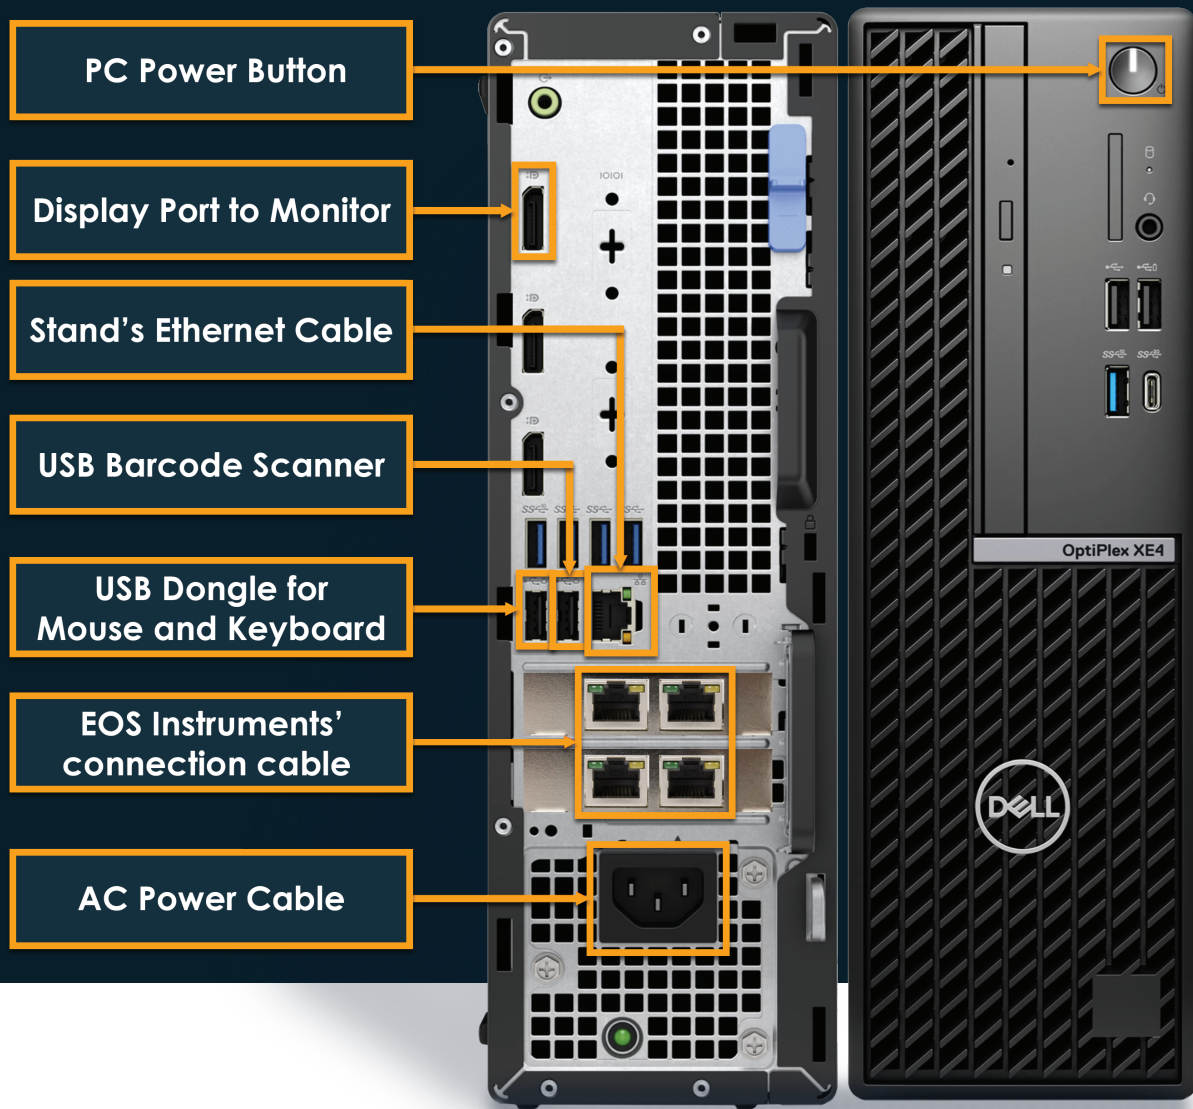

Figure 19. LeviCell EOS Control PC connection guide.
9. Refer to figure 19 for the PC core unit connection guide.
10. Connect the stand's shorter AC power cable to the PC core unit (Figure 19).